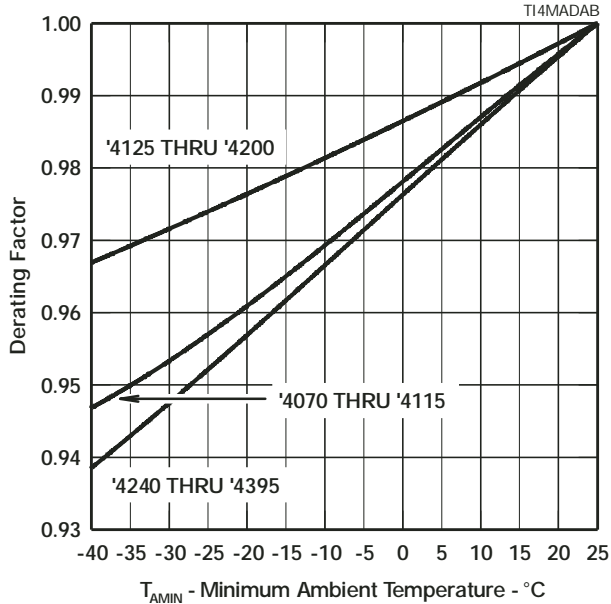

Figure 10.
- NOTES: 1. See Applications Information and Figure 10 for voltage values at lower temperatures.
Figure 10 allows the calculation of the protector VDRM value at temperatures below 25 °C. The calculated value should not be less than the maximum normal system voltages. The TISP4265M3AJ, with a VDRM of 200 V, can be used for the protection of ring generators producing 100 V rms of ring on a battery voltage of -58 V (Th2 and Th3 in Figure 17). The peak ring voltage will be $58 + 1.414 \times 100 = 199.4$ V. However, this is the open circuit voltage and the connection of the line and its equipment will reduce the peak voltage. In the extreme case of an unconnected line, clipping the peak voltage to 190 V should not activate the ring trip. This level of clipping would occur at the temperature when the VDRM has reduced to $190/200 = 0.95$ of its 25 °C value. Figure 10 shows that this condition will occur at an ambient temperature of -28 °C. In this example, the TISP4265M3AJ will allow normal equipment operation provided that the minimum expected ambient temperature does not fall below -28 °C.